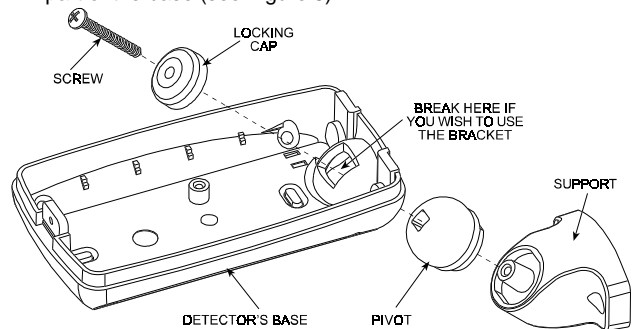
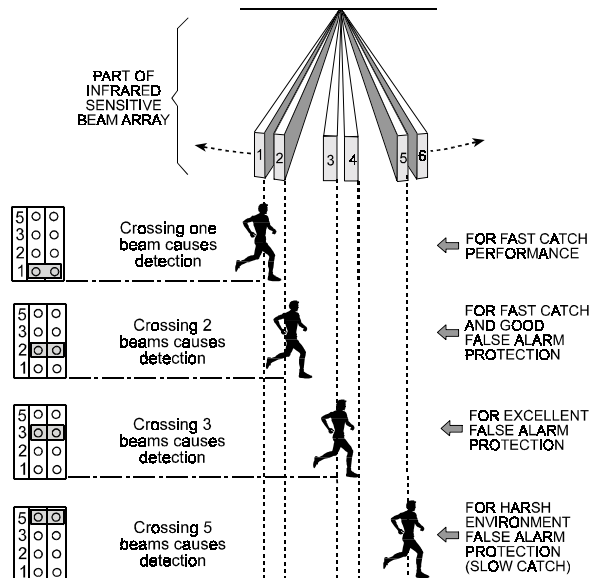

Figure 5. Attaching the Bracket
Figure 10. Pulse Counter Setting Options
- C. Punch out the large knockout in the round bulge at the top part of the base (see Figure 5)
- D. Assemble the bracket as shown in Figure 5.
The location of the pulse count selector is indicated in Figure 5. Refer to Figure 10 below and mount the jumper as desired.